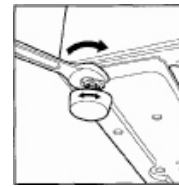

Fig2
- Level the washer dryer by turning the four adjustable legs on the bottom of the machine (Fig 2). The legs may be turned by hand or using a pair of pliers or channel locks.